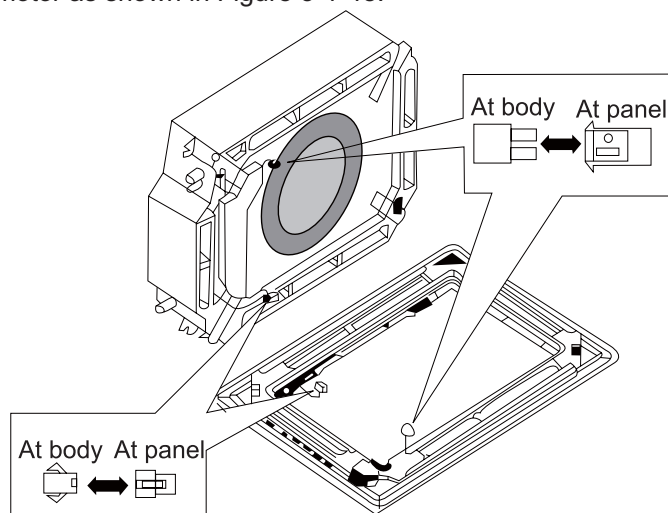

Figure 3-1-48
(9). Wire the swing flap motor as shown in Figure 3-1-48.